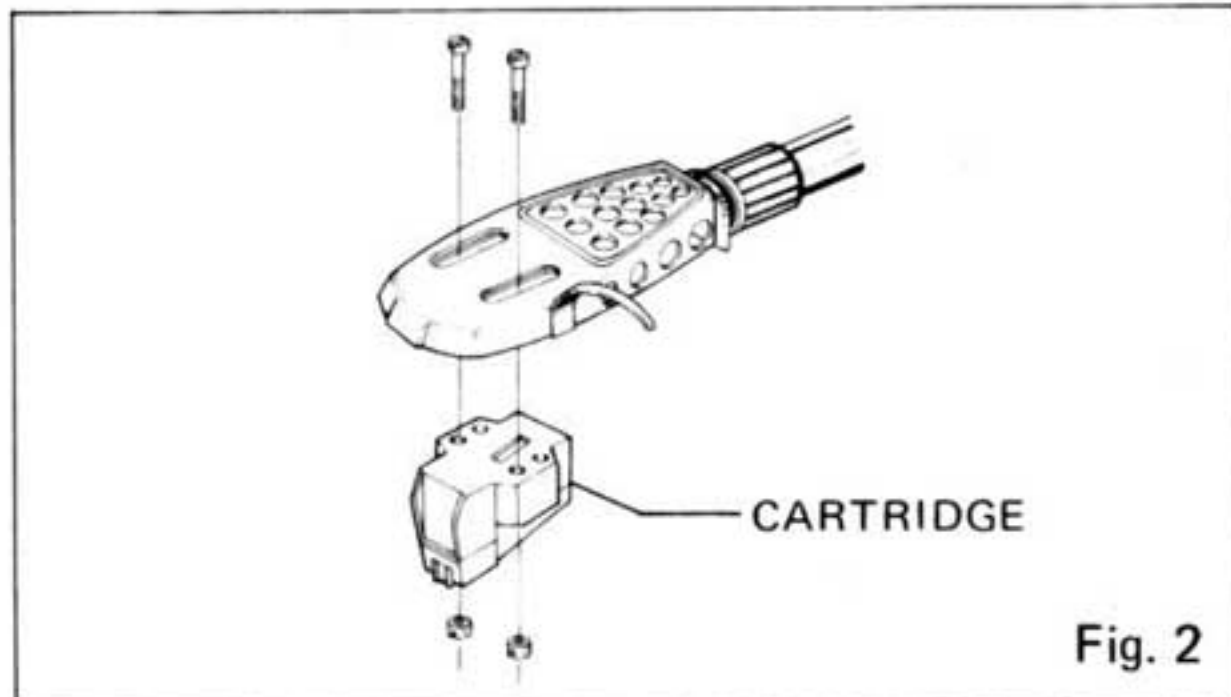

Fig. 2
1. Attach a cartridge (optional) to the cartridge shell lightly using screws and nuts (Fig. 2).